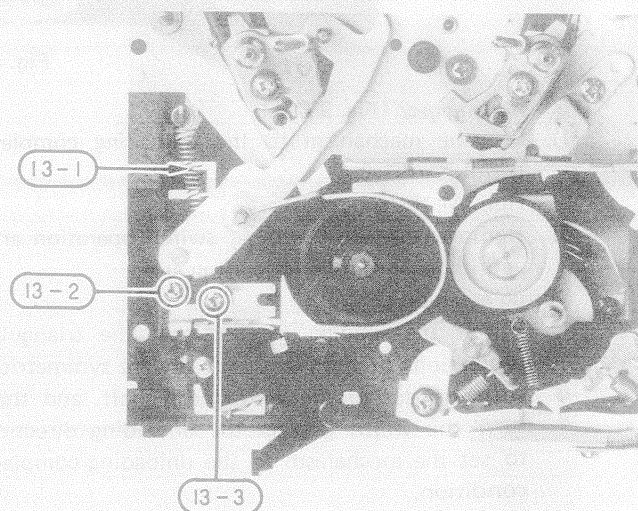

Fig. 28
13. Tension arm/tension band (Fig. 28)